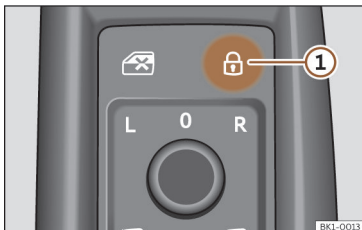

Fig. 88 On the driver's door: central locking button.
- Lock: press the  >>> **Fig. 88** button.
- Unlock: Press the  >>> **Fig. 88** button again. Please note the following when using the central locking switch to lock your vehicle: